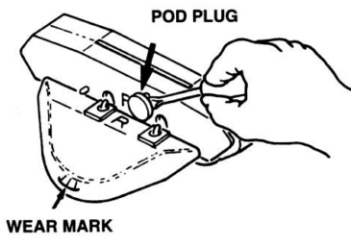

Figure 9
1. Check the condition of the “shoes, wings and flaps” periodically. The shoes and wings have wear indicators on their sides and should be checked occasionally to determine if they need to be replaced. The shoe wear indicator is the line on the side of the shoe that appears as a difference in texture. If the texture difference is no longer visible at the bottom of the shoe when viewed from either side, the shoes must be changed (See Figure 8). Also on the side, the wing wear indicator is the horizontal line which has three (3) vertical lines above it. If you can no longer see the horizontal line, the wings must be changed (See Figure 9). The Hayward (AXV414604WHP) shoe and wing maintenance kit is available from your Hayward dealer. Shoes, wings and flaps may also be purchased separately.
- a) Using a small flat screwdriver, remove the plugs from both pods (See Figure 9).